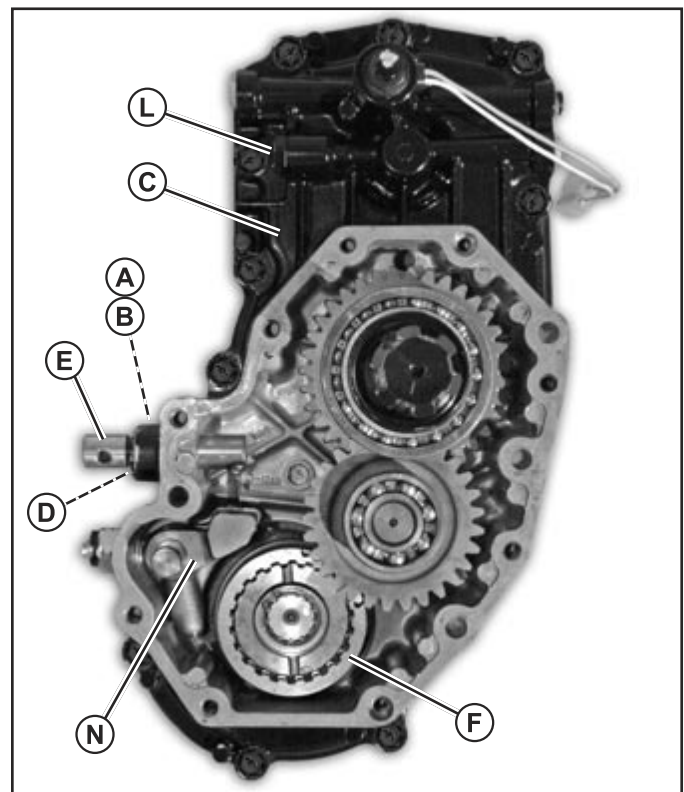
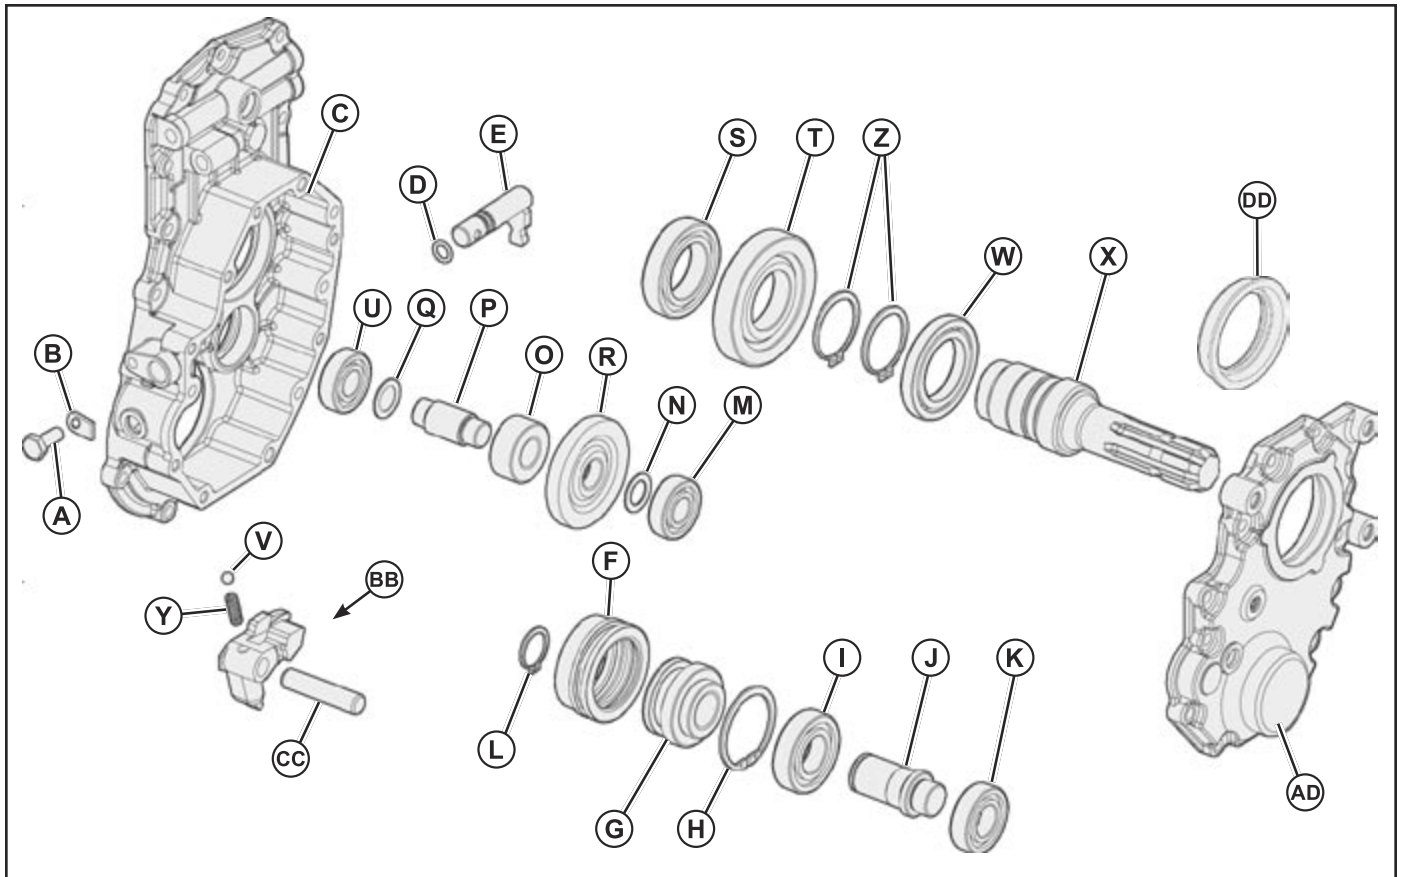

Fig. 27, Rear PTO Gear Case Assembly
Fig. 37, Rear PTO Disassembly
1. Remove cover from PTO gear case (C). (Fig. 27)
2. Remove cap screw (A) and plate (B), and pull shifter shaft (E) from PTO gear case (C). Replace O-ring on shifter shaft and apply thin coating of clean hydraulic oil, before reinstalling. (Fig. 27)
3. Remove shift collar (F) and shifter fork (N) assembly together. (Fig. 27)
6. If shifter fork (N), see fig. 27, was disassembled, install spring (Y) and ball (V) in fork. While compressing ball and spring, install fork shaft (CC). Be sure ball fits into grooves of shaft. (Fig. 37)
7. With fork groove of shift collar away from case, install shifter fork and collar. Be sure arm of shifter shaft (E) fits into slot of shifter fork. (Fig. 37)
- 1. Clean mating surfaces of cover (AD) and gear case (C). Be sure threaded holes are clean. (Fig. 37)
- 2. If removed, install gear sets in the reverse order of their disassembly. (Fig. 37)